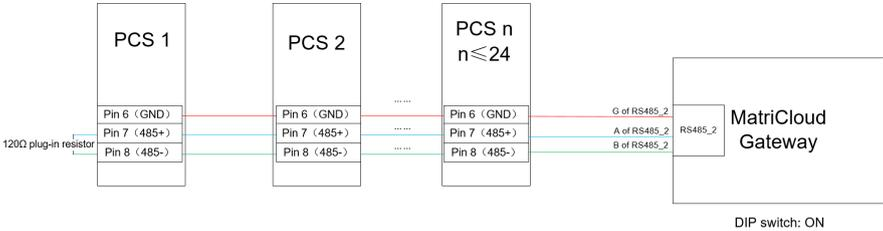

Figure 4- 23 Connect MatriCloud Gateway with multiple PCSs
2. Insert SIM Card according to the illustration as shown in Figure 4- 21.